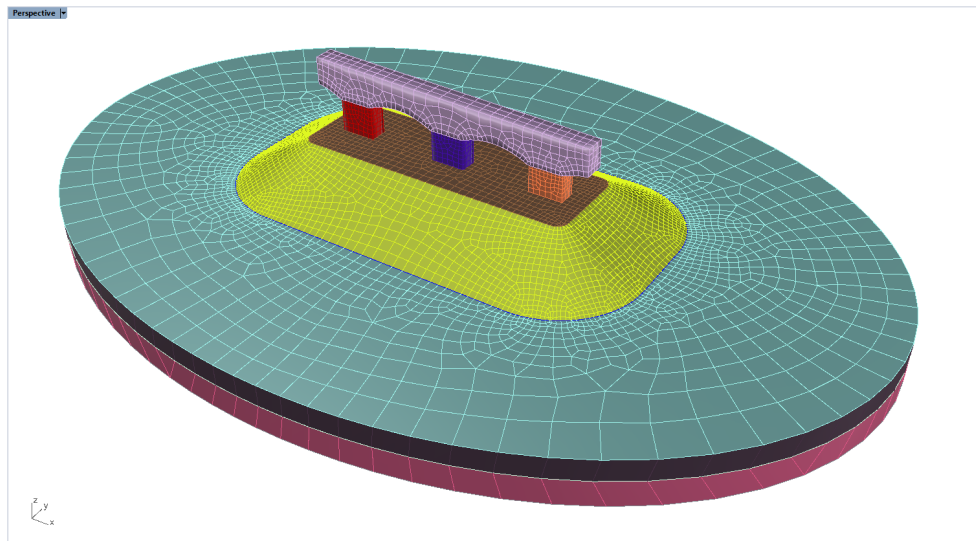
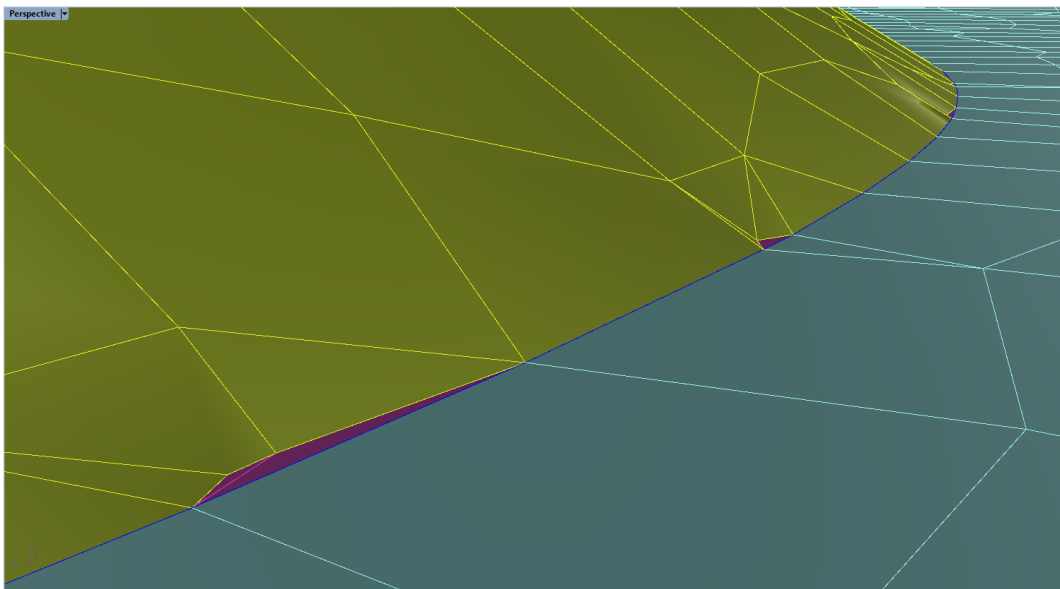

Figure 25: Remeshed surface meshes using standard approach.
Figure 26: Slightly deformed surface meshes when using standard approach.
14. Select all surface meshes and remesh with **GSurf** () using the following parameters: *Mode* = *QuadDom*, *MinEdgeLength* = 0.25, *MaxEdgeLength* = 5, *RidgeAngle* = 5, *AdvancedParameters* → *MaxGradation* = 0.06, and keep all other parameters at the default values. The resulting meshes are shown in Figure 25. These meshes look good overall, but zoomed views of the curved bottom / top embankment sections reveal (yellow-green mesh) that these areas contain small elements (faces) that do not fully conform to the initial shape (Figure 26). This is due to independent meshing of the initial BRep surfaces and due to using a large tolerance in **GInt**³.
20. Remesh the initial mesh with **GSurf** () using the same settings as in Step 14. The quality of elements (faces) around the curved parts of the embankment is much higher if compared with the mesh in Figure 25 (or with the meshes in layer “Meshes_Approach1”).